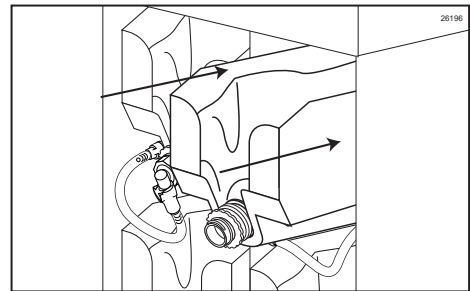

Figure 162
8. Make sure the syrup bag is settled neatly into the tray, and then install the loaded tray into the cabinet. (See Figure 162.)